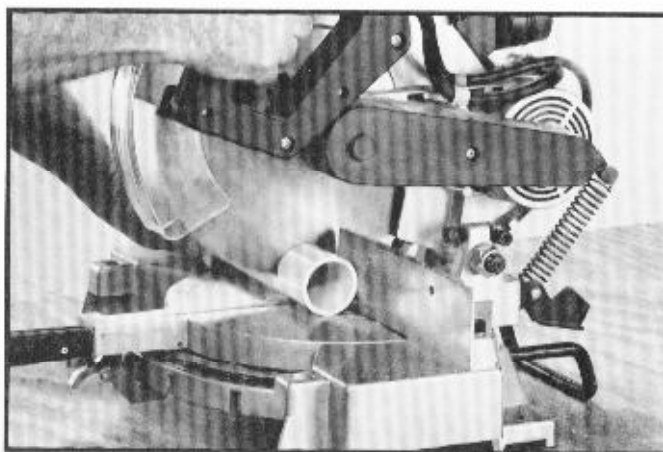

Fig. 39
4. Cutting various sizes of plastic pipe is an easy job with the miter box, as shown in Fig. 39.